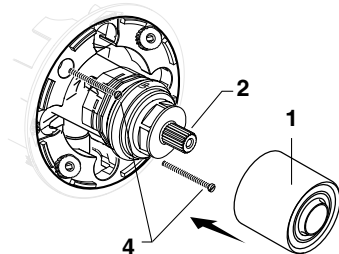

Figure 1a.
- ☒ **Figure 1a.** Push CAP (1) over VALVE CARTRIDGE (2) until seated against stop.